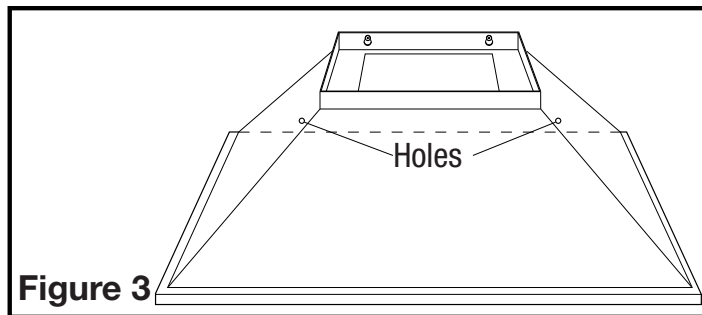

Figure 3
- Remove grease filters. With hood hanging in place from top screws, mark the locations of the lower holes (Figure 3). Remove hood and install screws, leaving 1/8" to 1/4" gap between wall and screw head.